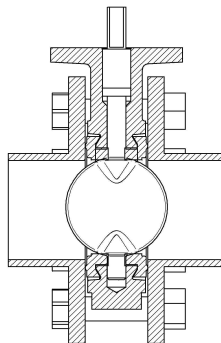
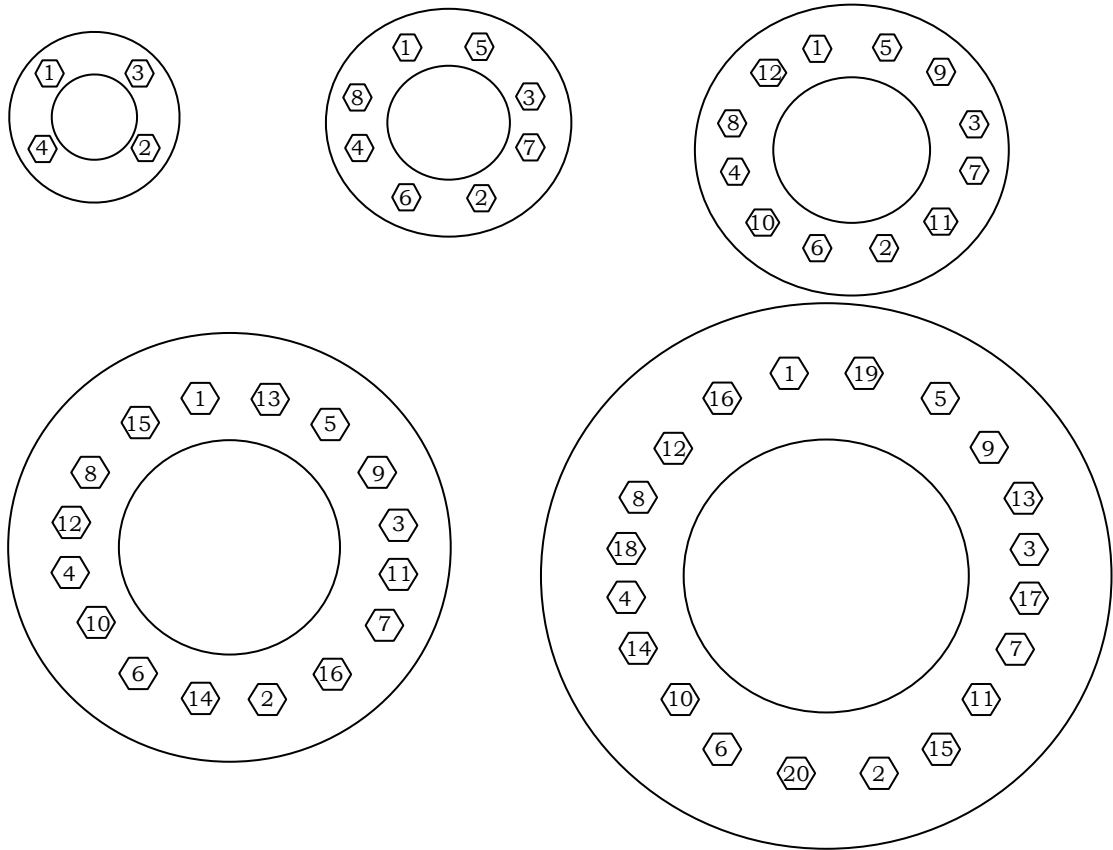

FIGURE 3: VALVE IN FULL OPEN POSITION
FIGURE 4: FLANGE BOLT TIGHTENING SEQUENCE
- Step 7. Slowly open the valve to the full open position (Figure 3) and back to the partially open position ensuring that the disc moves freely without any obstruction. If no obstruction is encountered, return the valve to the full open position and hand-tighten all flange bolts using the bolt tightening sequence shown in Figure 4.
- Step 8. Rotate the disc from the fully open position to the fully closed position and make sure that the valve is properly centered and the disc edge does not contact the pipe ID. Return the disc to the full open position and tighten the flange bolts following the bolt tightening sequence shown in Figure 4. However, do not fully tighten each flange bolt all at once. Tighten each bolt incrementally following the sequence in Figure 4 several times until the flange bolts are tight. After all flange bolts are fully tightened, cycle the valve from full open to full closed to ensure that there is proper disc clearance.